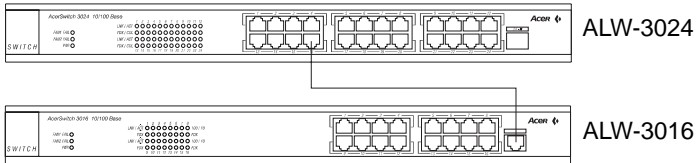

Figure 3-2-1 Up-link port connection
3. Make sure the **LNK ACT 100/LNK ACT10** LED is lit then it will work normally.(See Figure 3-2-1)